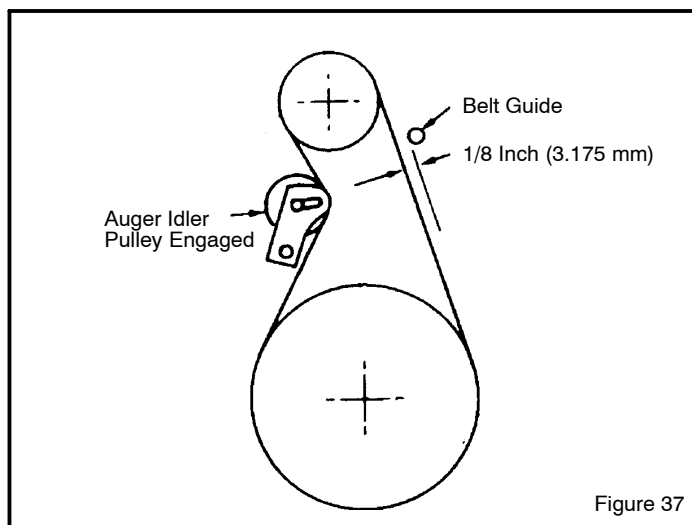

Figure 37
3. Measure the distance between the belt guide and belt. The distance should be 1/8 inch (3.175 mm) for guide. See Figure 37.